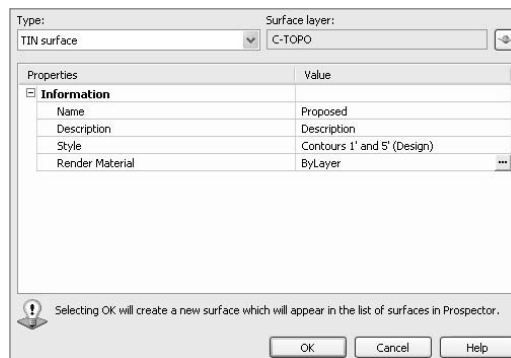

Figure 12.23
3. Change the Name field to **Proposed** and the Style to **Contours 1' and 5' (Design)**, as shown in Figure 12.23.